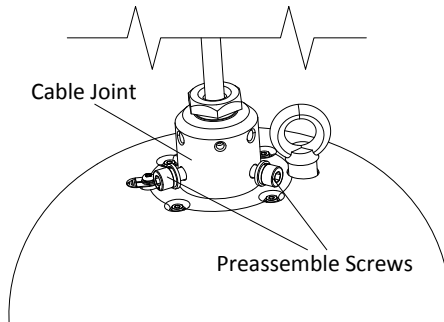

Figure 2-11 Insert the Screws
3. Route the cables into the bracket body. Insert three preassemble screws into the preassemble screw holes on the cable joint (do not tighten the preassemble screws) as shown in Figure 2-11.